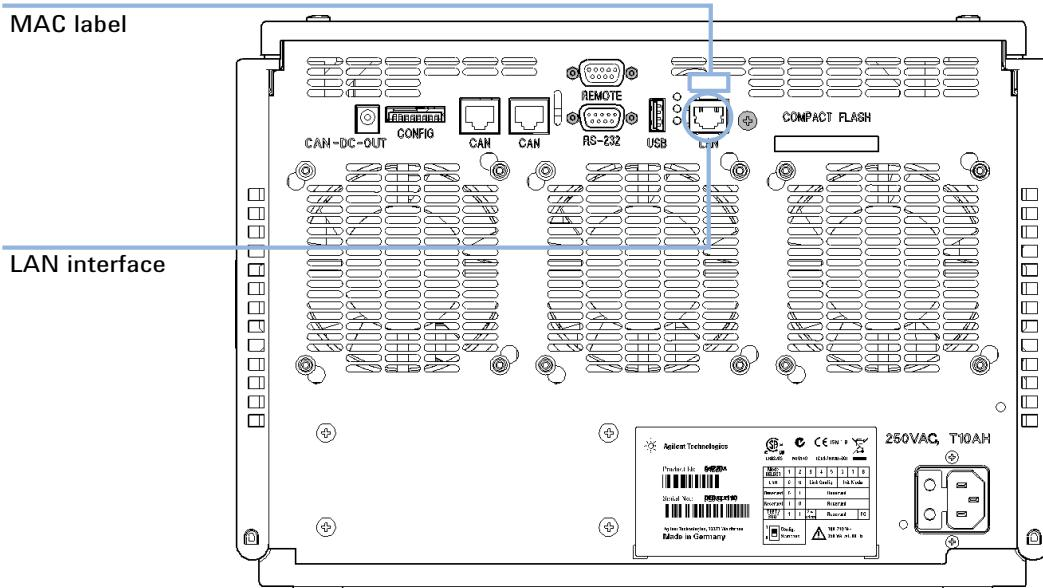

Figure 31 Location of LAN interfaces and MAC label
- 1 Note the MAC (Media Access Control) address for further reference. The MAC or hardware address of the LAN interfaces is a world wide unique identifier. No other network device will have the same hardware address. The MAC address can be found on a label at the rear of the module (see Figure 31 on page 245).
2 Connect the instrument's LAN interface (see Figure 31 on page 245) to